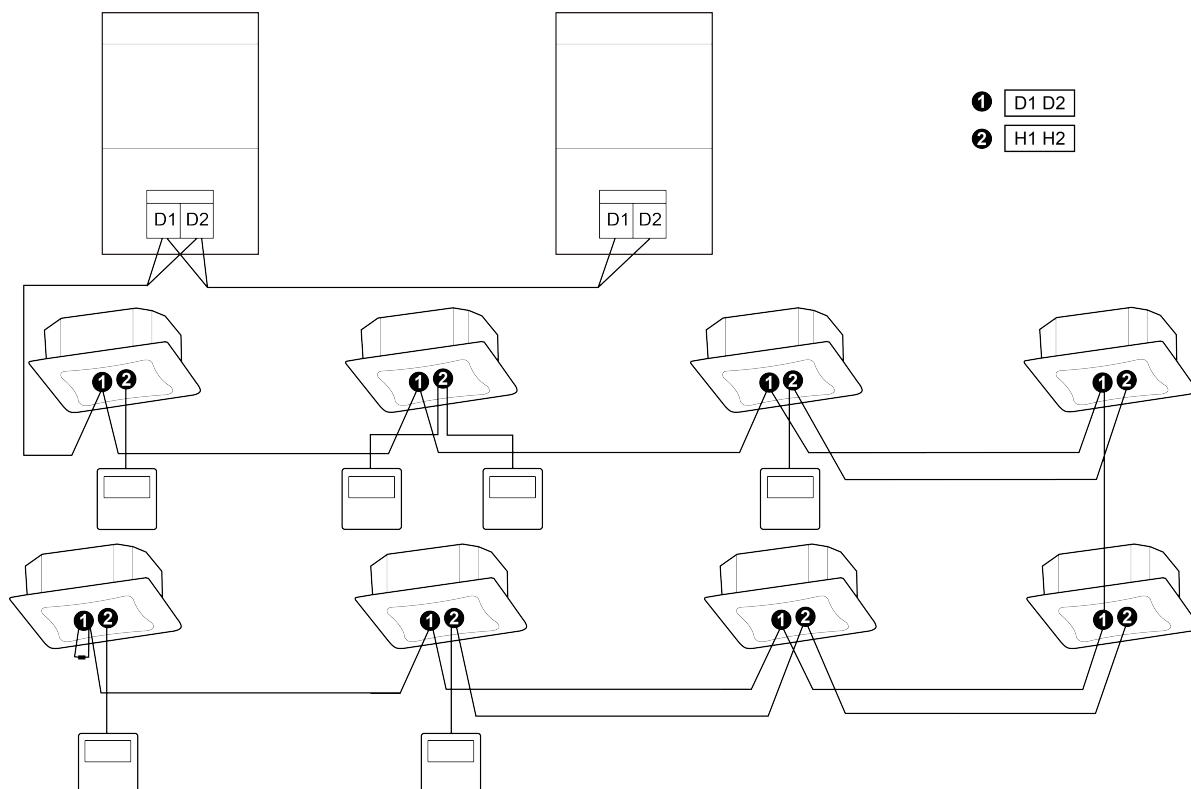

Fig.5.5.1
- (1) Communication wire of indoor unit and outdoor unit (or indoor unit) is connected to D1, D2.
- (2) Wired controller is connected to H1, H2.
- (3) One indoor unit can connect two wired controllers that must be set as master one and slave one.
- (4) One wired controller can control 16 indoor units in maximum at the same time (as shown in Fig.5.5.1).